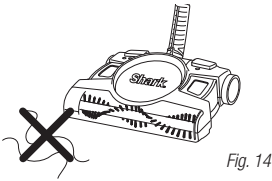

Fig. 14
- 4 Do not use it to pick up pieces of string or fabrics. (fig. 14) Do not use the floor and carpet sweeper to clean tasseled or frayed carpets.